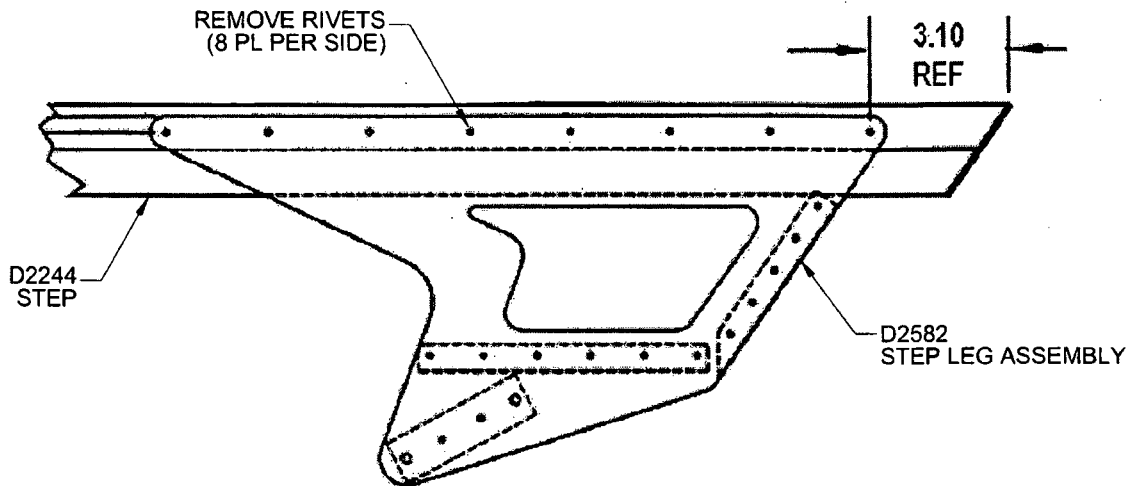

FIGURE 1
- 2.1 Remove qty 16 rivets fastening Step Leg Assembly D2582 to Step D2244. See Figure 1.